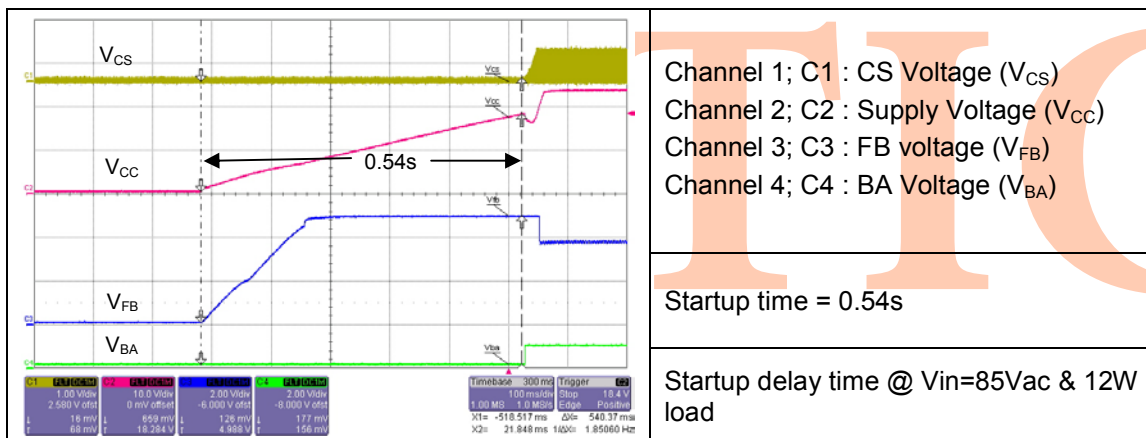

Figure 6 The startup delay time at AC line input voltage of 85Vac
Startup time is counted from applying input voltage to IC turn on. ICE3BRXX65J(Z)(G) has a startup cell which is connected to input bulk capacitor. When there is input voltage, the startup cell will act as a constant current source to charge up the Vcc capacitor and supply energy to the IC. When the Vcc capacitor reaches the Vcc_on threshold 18V, the IC turns on. Then the startup cell is turned off and the Vcc is supplied by the auxiliary winding. Start up time is independent from the AC line input voltage and it can be calculated by the equation (1). Figure 6 shows the start up time of 85Vac line input.
Therefore, the minimum Vcc capacitance can be 7.4μF. In order to give more margins, 22μF is taken for the design. The startup time $t_{STARTUP}$ is then 0.528s. The measured start up time is 0.54s (Figure 6). A 0.1μF filtering capacitor is always needed to add as near as possible to the Vcc pin to filter the high frequency noise. The filter capacitor C6 and the auxiliary series resistor R2 form a R-C filter which can effectively filter the transformer switching noise from auxiliary winding going into the IC.